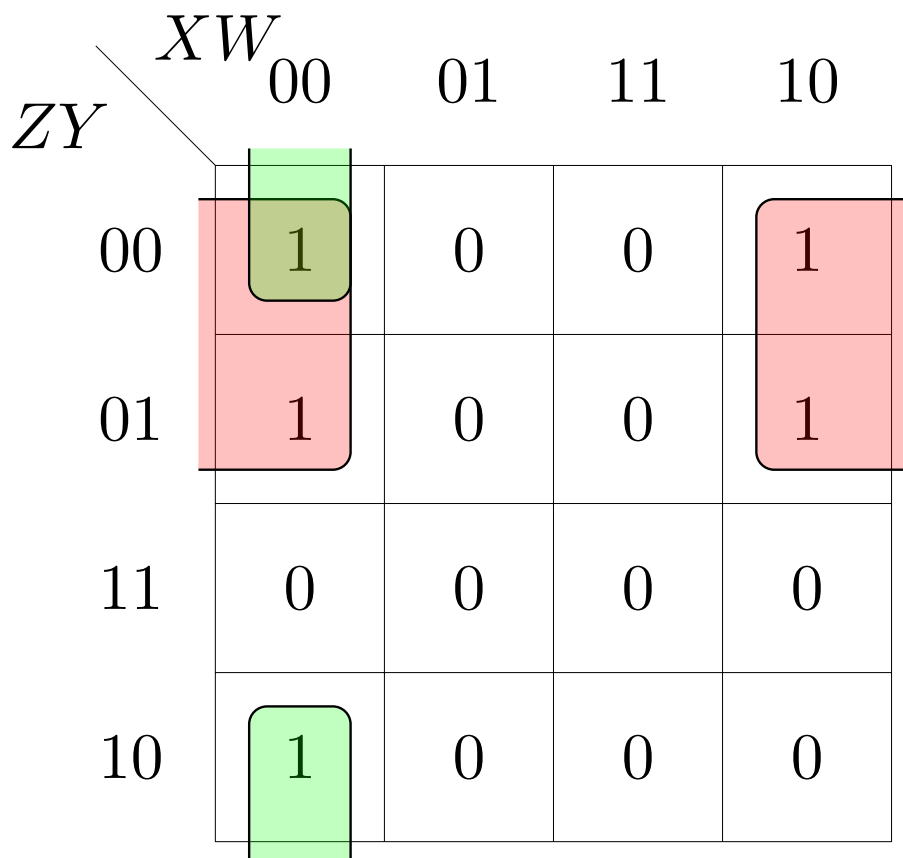

Figure 4.1: K-map for A
1. K-Map for A : The expression in (4.1) can be minimized using the K-map in Fig 4.1
In Fig 4.1, the implicants in boxes 0,2,4,6 result in $W'Z'$ The implicants in boxes 0,8 result in $W'X'Y'$ Thus, after minimization using Fig 4.2, (4.1) can be expressed as